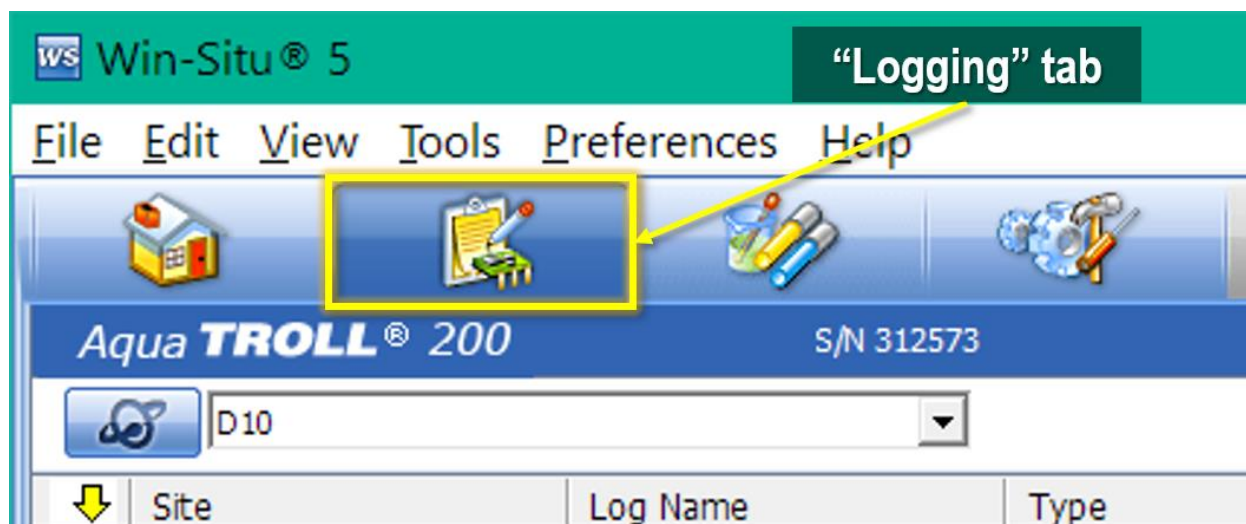

Figure 21. Select the "Logging" Tab
2. Select the **Logging** tab in the upper right-hand corner of the window (**Figure 21**).
13. Select the **Logging** tab in the upper right-hand corner of the window to cease logging (**Figure 21**). This step is to verify the Aqua TROLL is not logging post-refresh or to turn off logging.